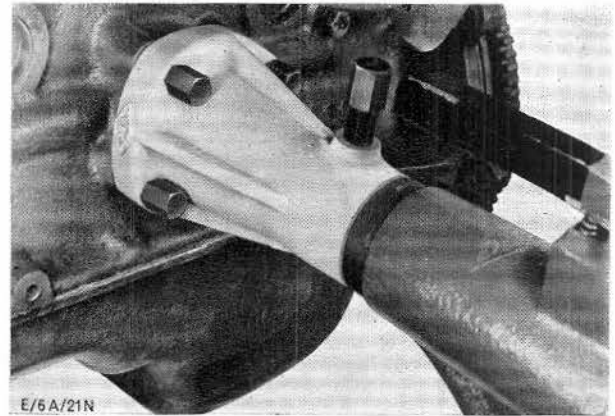

Fig. 17. Engine mounting bracket.
1. Secure engine to stand by means of engine mounting bracket 21-023/21-031, Fig. 17.